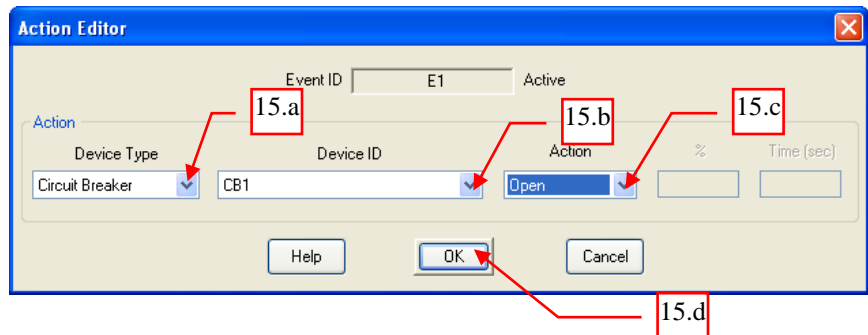

Fig. 10
15. Do the following in the “Action Editor” dialog box shown in Fig. 10: